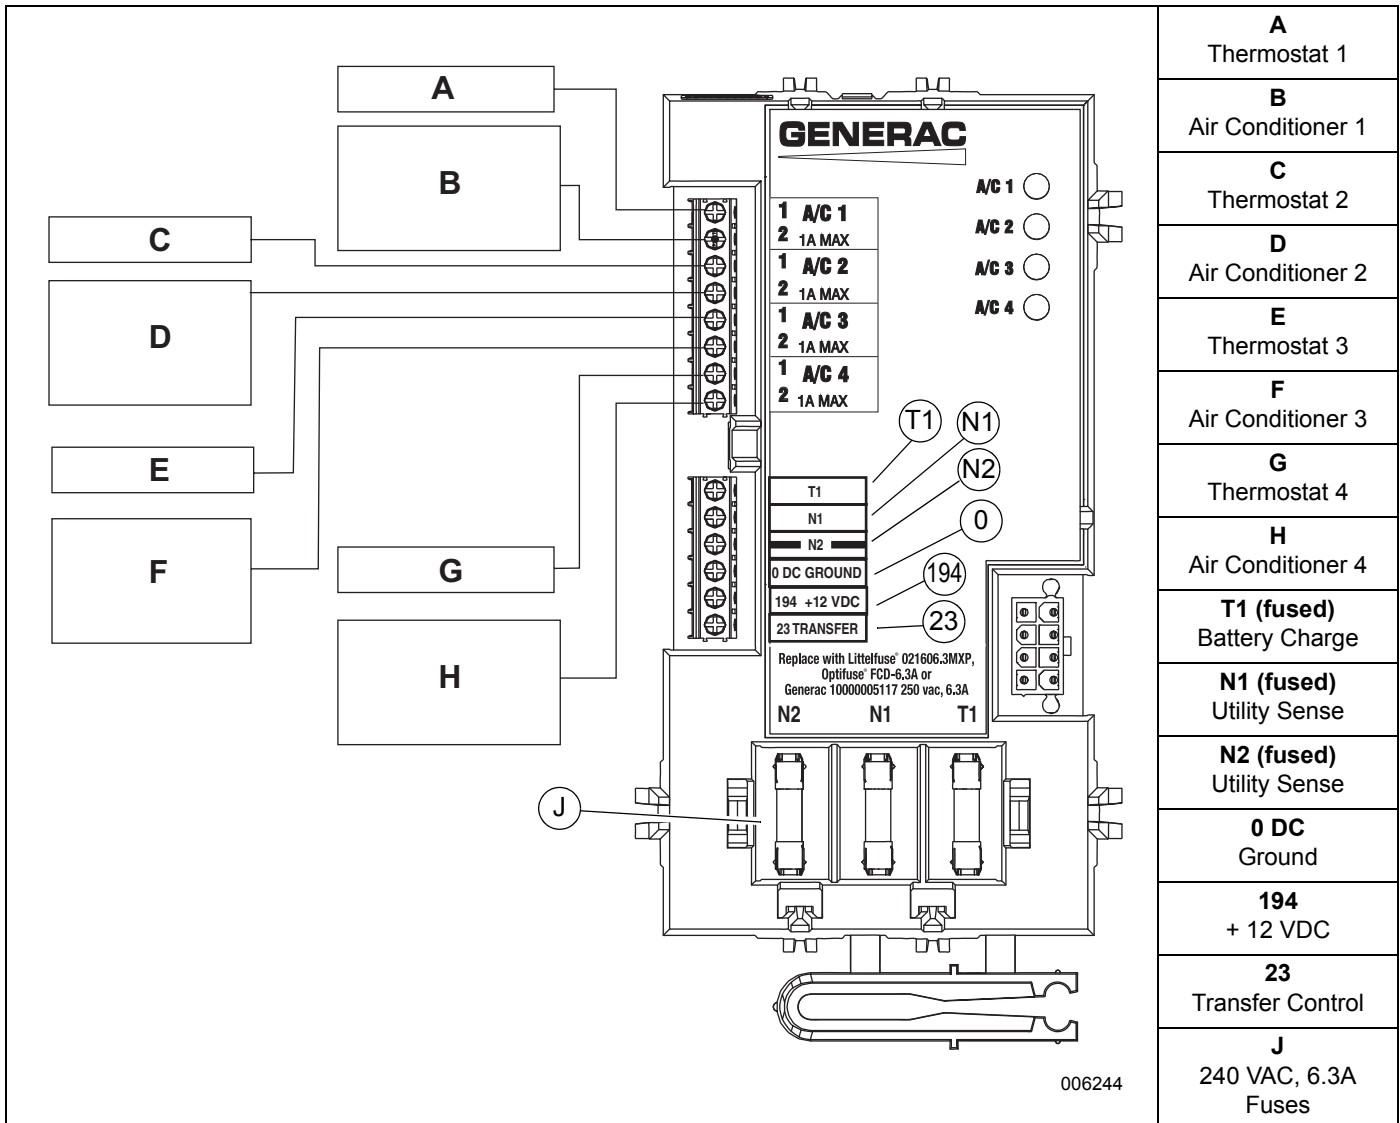

Figure 3-3. Typical SACM Connections
Control system interconnections consist of N1, N2, and T1, and leads 23, 0, and 194 (see Figure 3-3).
See Figure 3-3. The SACM can control an air conditioner (24 VAC) directly.
2. Connect the wire to the terminal strip terminals (A/C 1) on the SACM as shown in Figure 3-3. These are normally closed contacts which open upon load shed conditions. Route thermostat wire away from high voltage wires.